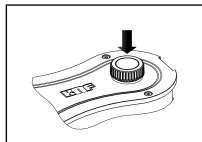

Fig. 4: Switching the pump on/off
- Switch on the pump by pushing the rotary/push knob (see Fig. 1/3, see Fig. 4).
- Switch the pump with the rotary/push knob (see chapter Fig. 4).